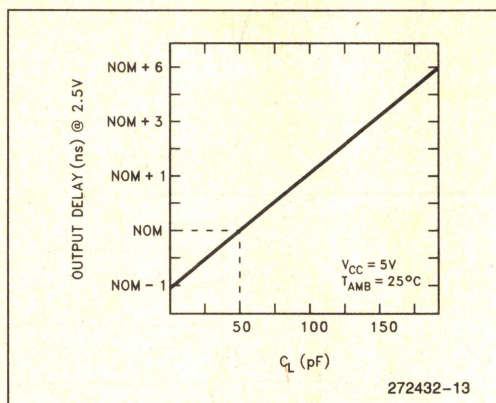

Figure 13. Typical Output Delay Variations Versus Load Capacitance
4. Specified for a 50 pF load, see Figure 13 for capacitive derating information.